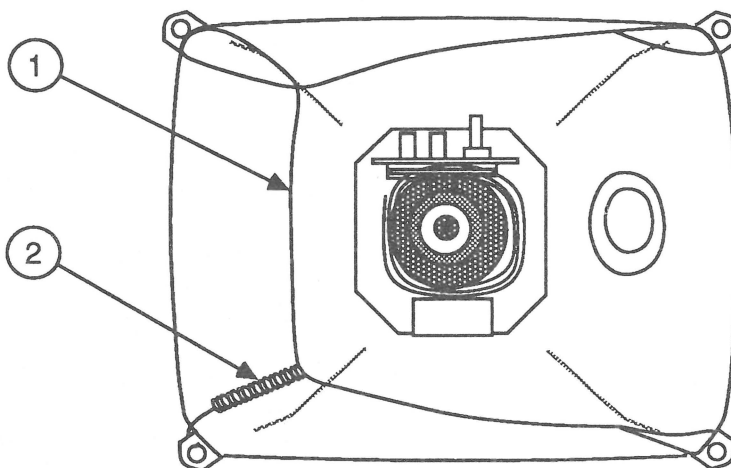

FIGURE 40
12. Remove the grounding strap (Figure 40, #1) and the spring (Figure 40, #2). Save them to use on your replacement CRT.
1. Replace the grounding strap (Figure 40, #1) and the spring (Figure 40, #2).